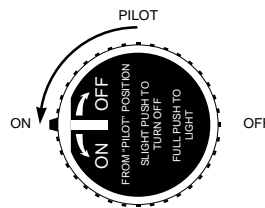

Figure 4 - ON Position
8. When pilot remains lit, start heater by slowly turning control valve knob 1/4 turn to left to ON position (see Figure 4).